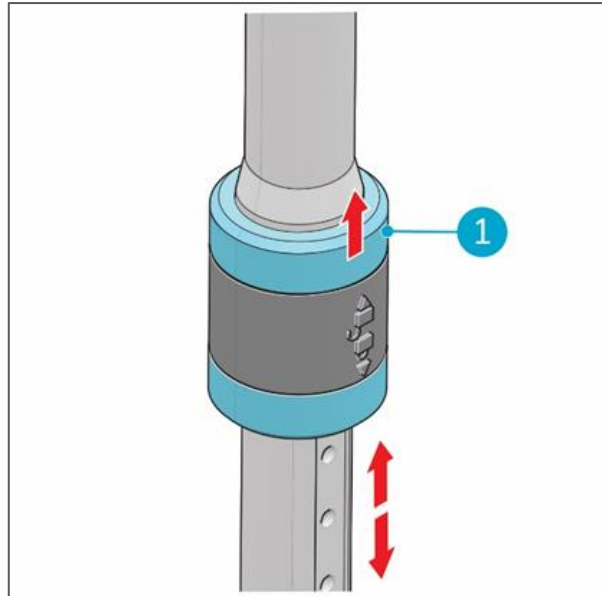

Figure 15
Pull the knob (Figure 15, pos 1) on the wand up to unlock it, adjust the length of the wand and release knob to lock it.